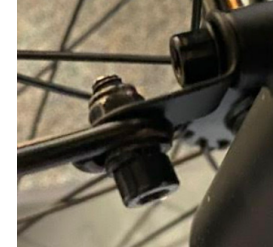

Fig. 2
4. Position the fender struts to the mounting tabs on the fork. It is okay to squeeze inward as these braces are designed to be pliable. Using the 4mm hex and 8mm open end wrench, unthread the mounting bolts. Run the bolt through the open end of the strut and fix the fork mounting tab. Thread the nut onto the back of the bolt and snug tight with the 4mm and 8mm wrenches. **(Fig. 2)**